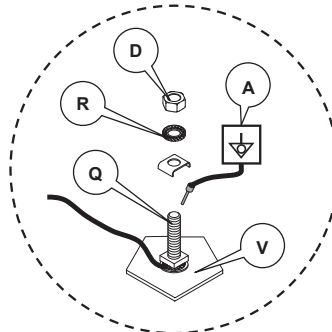

FIGURE 2
Using an 7 mm wrench, connect the wire of the home's equipotential circuit (A) with a square M5 nut (Q), indented washer (R) and a hexagon M5 nut (D) to the tub frame (V) as shown in the figure 2.